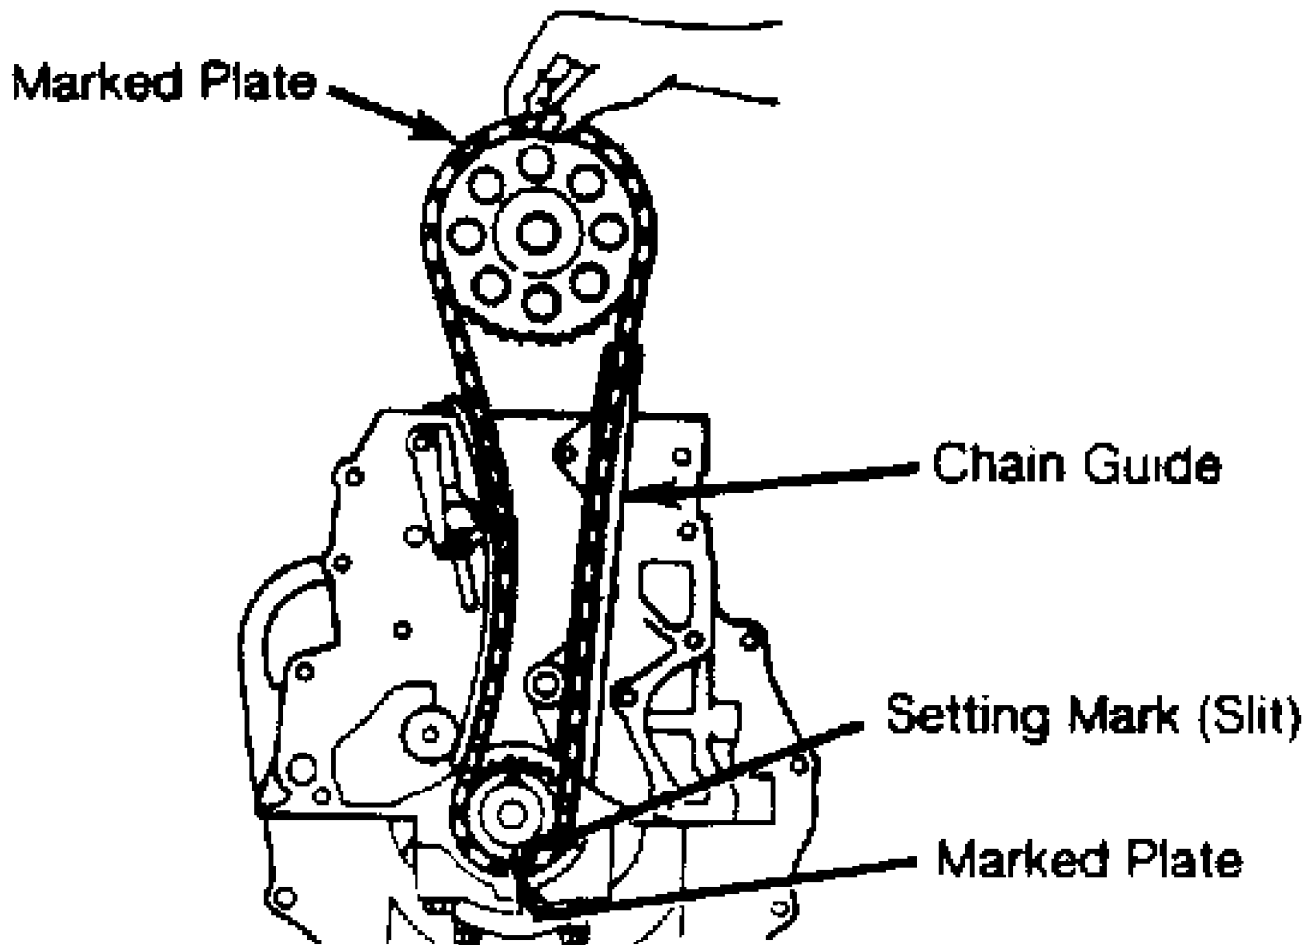

Fig. 6: Aligning Timing Chain & Sprockets on 1.9L Models
2) Install timing chain by aligning chain marked plate with mark on crankshaft sprocket. Ensure that side of chain with most links between marked plates is on chain guide side of engine. See Fig. 6.